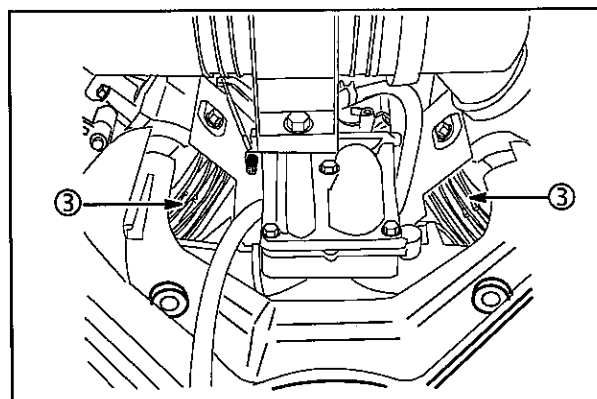

Fig. 27
3. Blow compressed air from the PTO side to clean the cooling fins (3), **Fig. 27** around each cylinder and to back flush the cooling system.